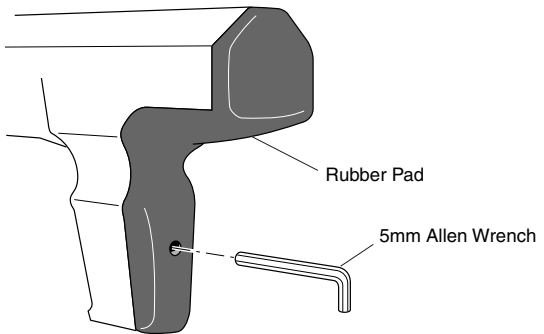

Figure 5 - Removing Rubber Pad
1. Slip top of rubber pad over plug at rear of tool body (see Figure 5, page 19).